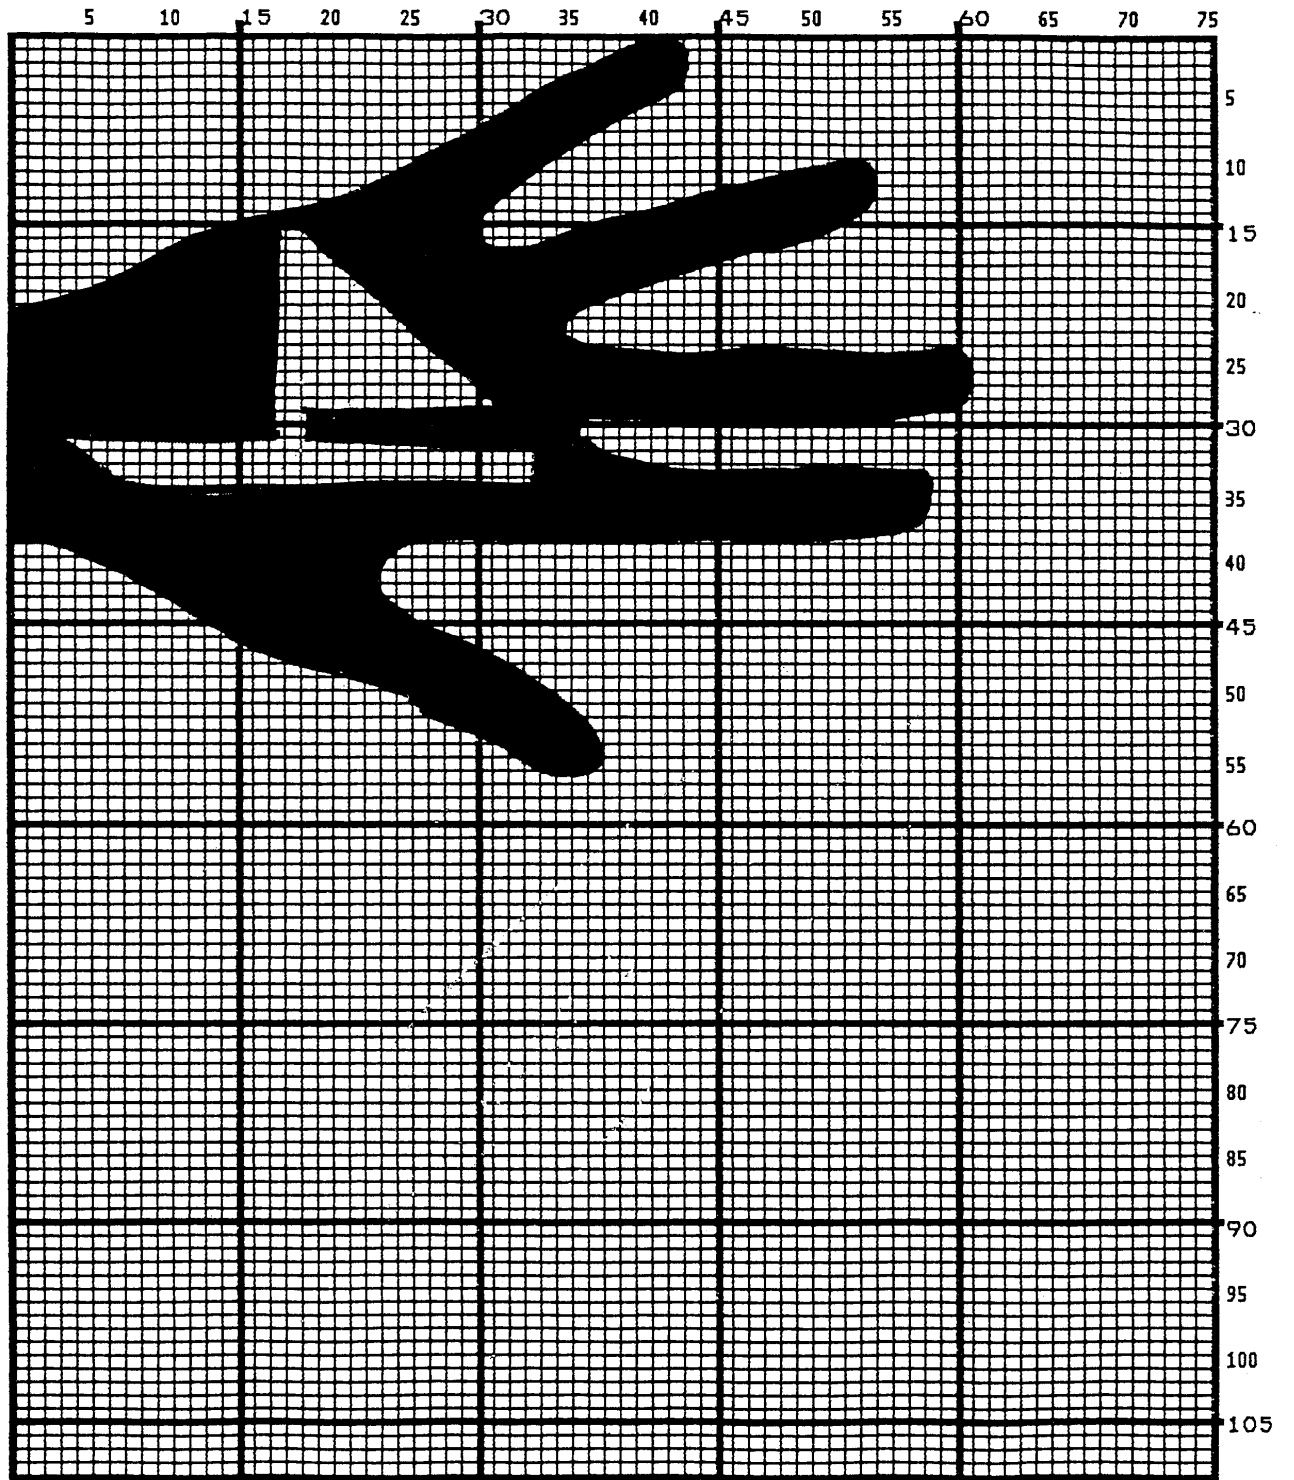

Figure 72. Logo Design
2. Define the logo and then return to the form to add all the form components. Modify the hand logo already on file as the HandCraft logo. Use the Logo Grid in Appendix B, and refer to Figure 72, which shows the dot positions of the hand logo with a boat added to the hand. When dot positions (or a range of dot positions) are not specified, the boat image in the hand emerges.